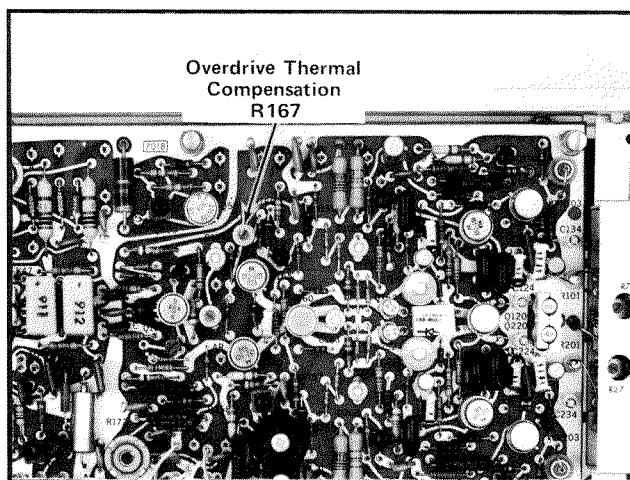

Fig. 5-4. Partial view of Input board showing adjustment location for step 11.
e. ADJUST—If tolerance is exceeded, adjust the Overdrive Thermal Compensation control R167 (see Fig. 5-4) for quickest return of trace (with minimum final trace drift) to within 0.5 mV of graticule center.